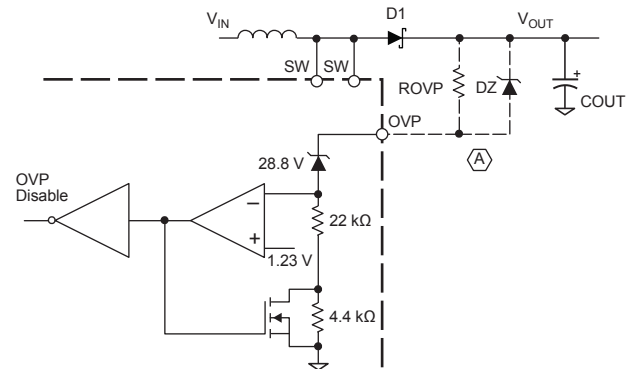

Figure 10. Overvoltage protection circuit. Three alternative configurations at (A) are available, as follows:
**Overvoltage Protection (OVP).** The A8500 has overvoltage protection to protect the IC against output overvoltage. The overvoltage level can be set, from 30 to 45 V typical, with an external resistor, ROVP, as shown in figure 10. When the current through the OVP pin exceeds  $54.9\ \mu\text{A}$ , the OVP comparator goes high. When the OVP pin current falls below  $47.8\ \mu\text{A}$ , OVP is reset.